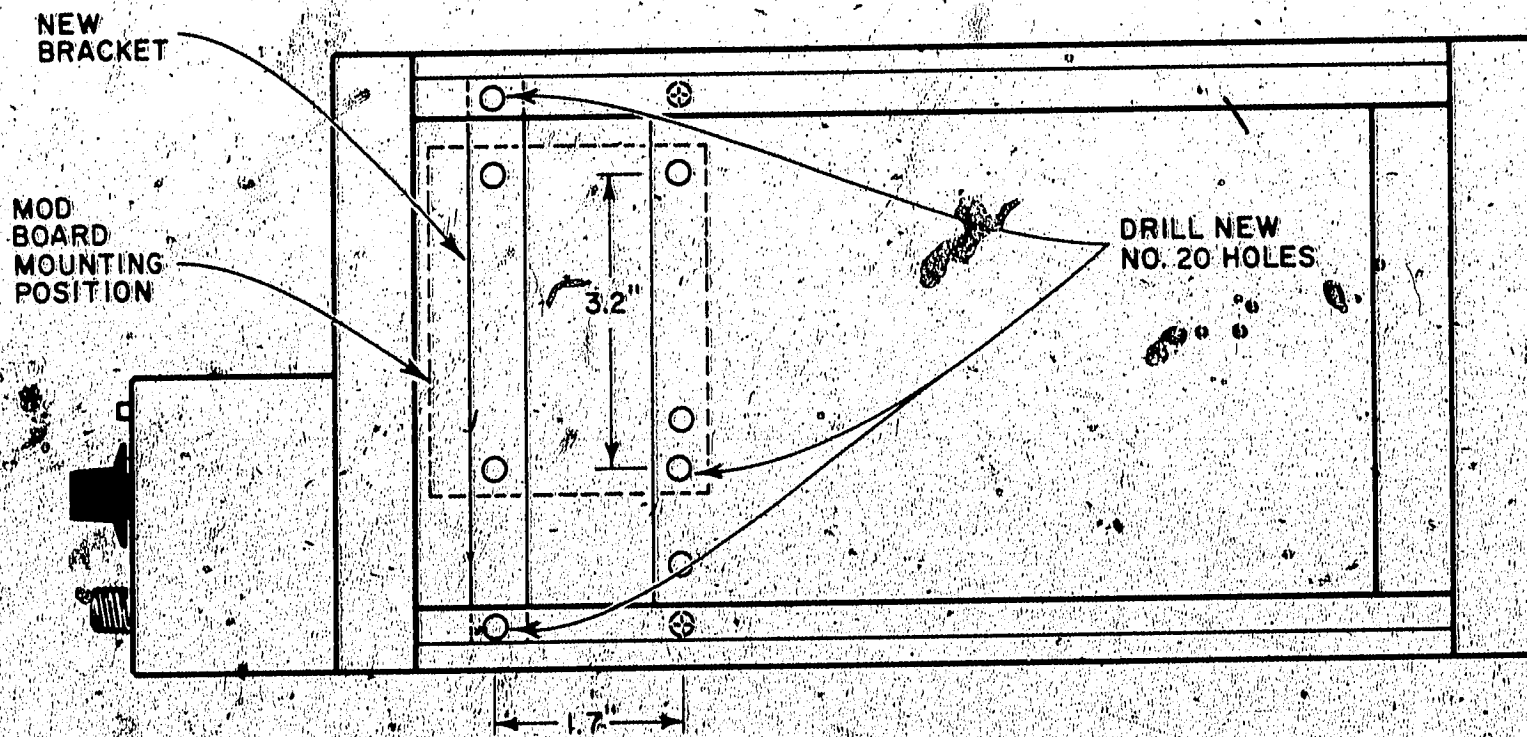

Figure 1. Modulator Board Mounting Details.
2. Drill three new No. 20 holes as shown in Figure 1. Install the new bracket using two 6:32 x 1/2" screws and nut/lockwashers.
3. Mount the Shunt Tube Modulator Board as shown in Figure 1. Tube V1 and the large capacitor should be toward the rear of the instrument. Use four 6:32 x 3/8" screws. NOTE: In some 8691A's the front end of the BWO mounting plate is folded toward the inside of the instrument. In these units it is necessary to install the 1/4" spacers under the modulator board standoffs for more clearance.